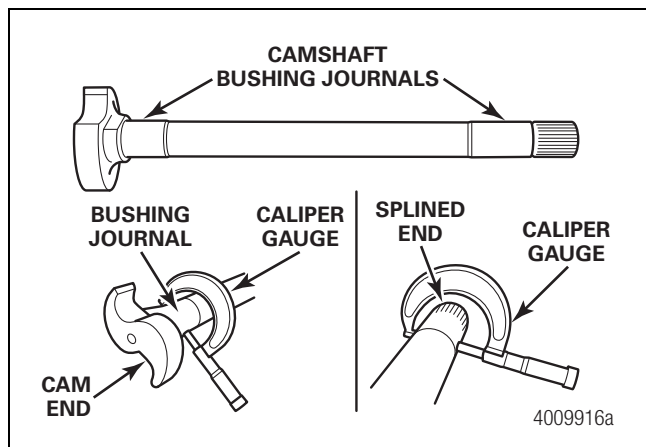

Figure 4.7
3. Use a 1-2-inch machinist's caliper to measure the bushing journals on each camshaft. Take the measurement in multiple positions on the bushing journals as the camshaft and bushing may wear unevenly. Camshaft journal diameter must be no less than 1.490-inches (37.846 mm). Figure 4.7.